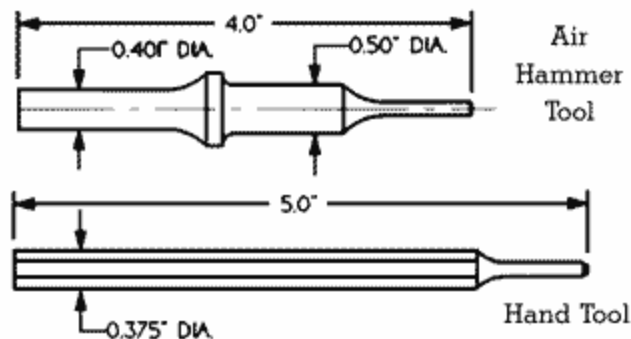

FIGURE 1
- 3.3. Farmington Engineering hand installation tool for the specific Cv Plugs size. For automated assembly the air hammer tool is required. See Figure 1 and Table A.